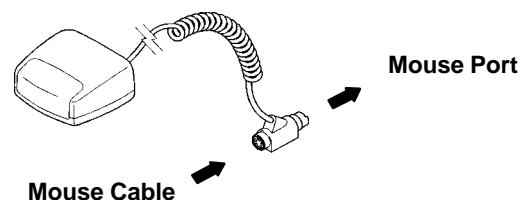

Figure 3-9. Apple Macintosh Mouse Receiver
**Apple Macintosh:** Power off the computer then disconnect the current mouse cable. Now connect the mouse receiver plug to the computer mouse port (Figure 3-9).